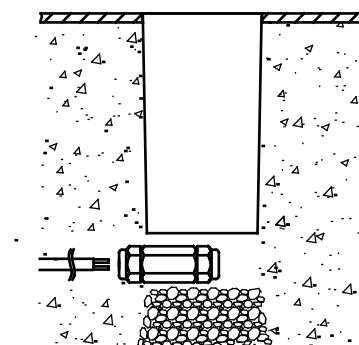

Fig 2.2
- 2.2 Connect the mains supply cable to a waterproof junction box. (See Fig 2.2)